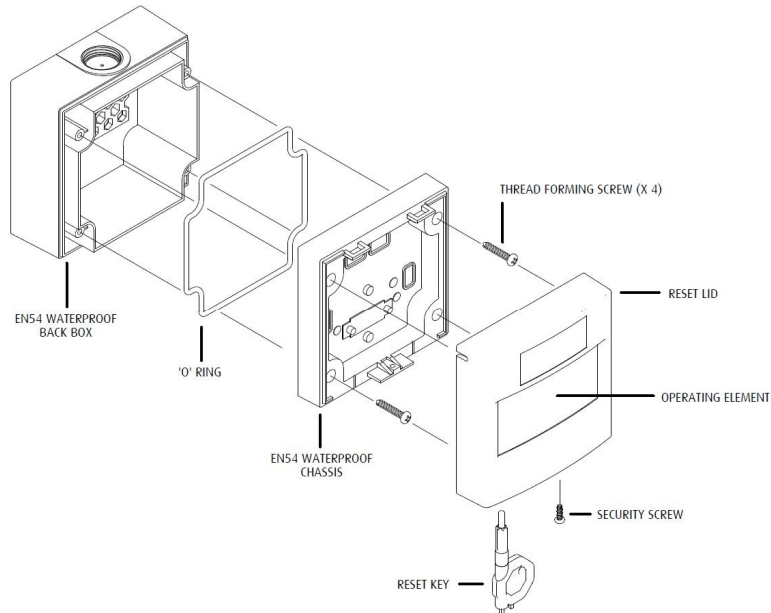

Figure 1
2. Insert the "O" Ring into the Red section of the Call Point as shown in Figure 1 below.
5. Fasten the Waterproof Chassis to the Back Box, then fit the Reset Lid to the unit, as shown in Figure 1, using the screws provided.
7. To Reset the Call Point, Insert the Reset Key where shown in Figure 1 and turn anti-clockwise until it Clicks and the Yellow/Black flag has retracted from view.